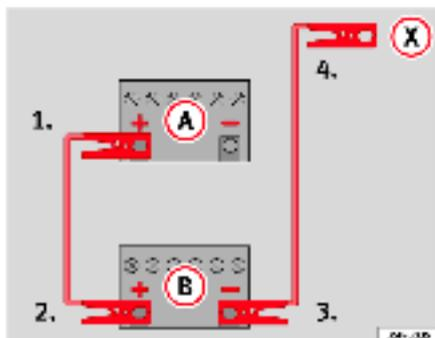

Fig. 171 How to connect the jump leads
In ⇒ fig. 171, the flat battery is **A** and the charged battery **B**.
1. Connect one end of the red jump lead to the positive ⇒ fig. 171 **+** terminal of the vehicle with the flat battery ⇒ **!**.